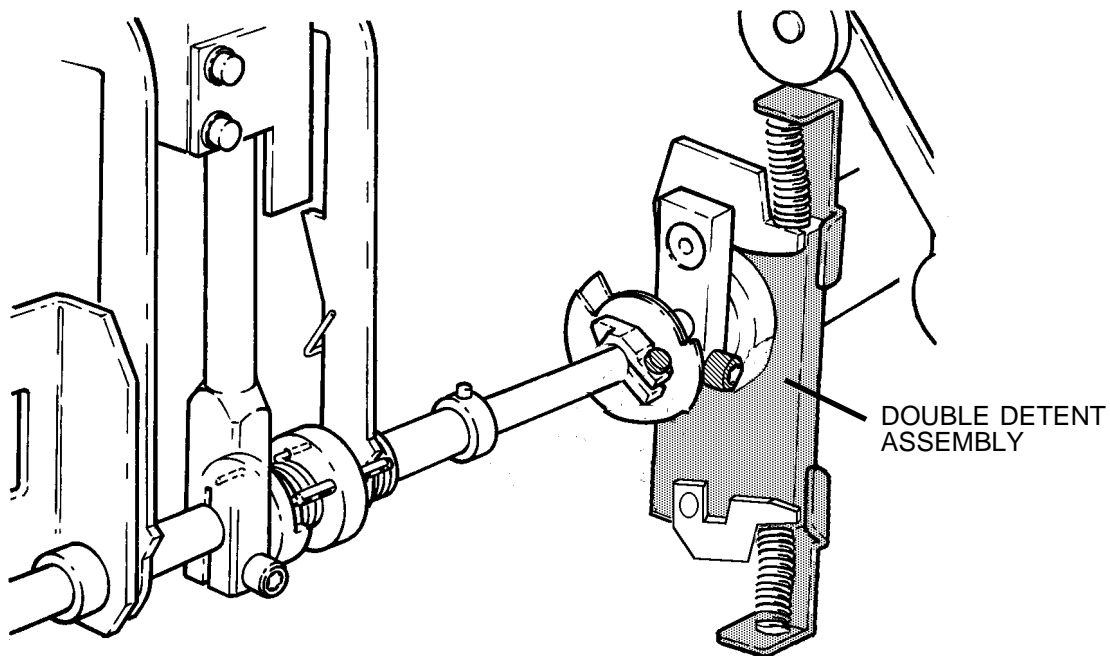

figure 3
**Starting with SN 1422 a DOUBLE DETENT is used. See the figure 3.**